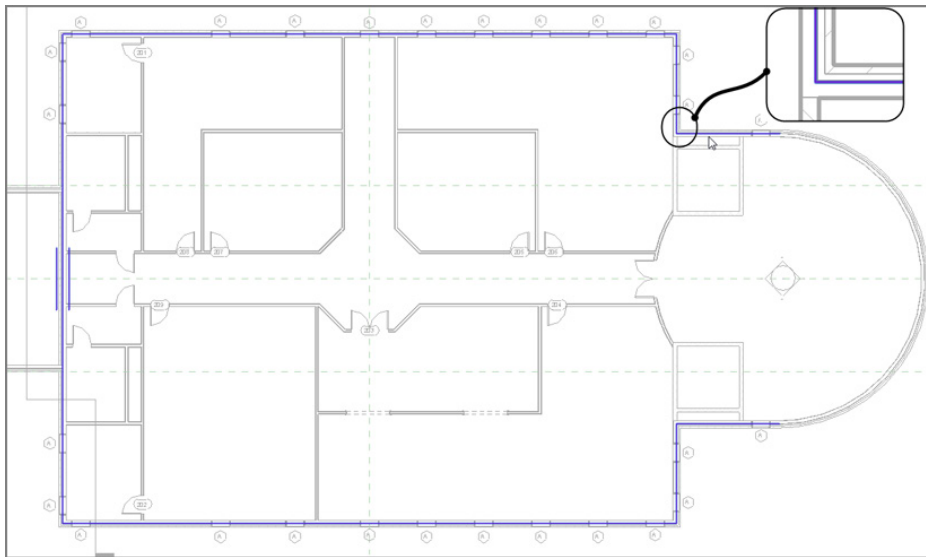

FIGURE 6.26: Picking the core centerline of the exterior walls, except the radial east wall
2. Start picking walls, as shown in Figure 6.26. Do *not* pick the radial wall at the east entry.